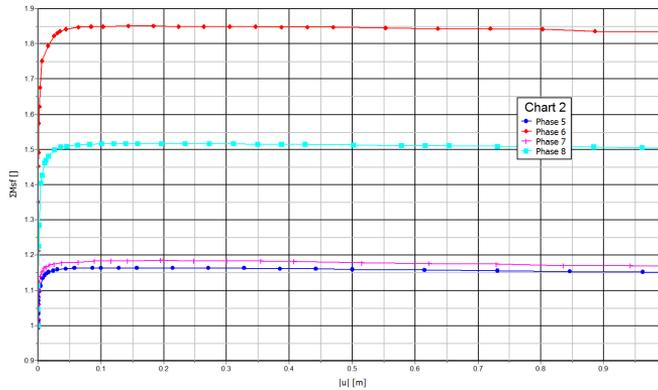

Figure 4.17 Evaluation of safety factor
- For the *y*-axis, select *Project* and then select *Multiplier* → ΣMsf . The *Safety* phases are considered in the chart. As a result, the curve of Figure 4.17 appears.